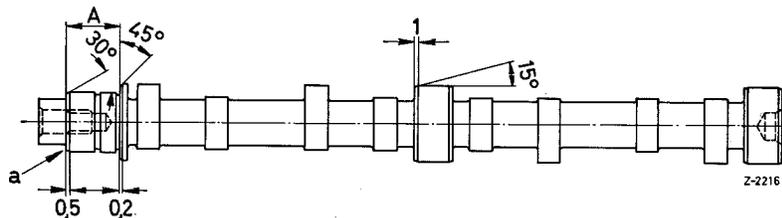

Figure 05-38/2
When re-grinding the 1st camshaft journal (1) the thrust surfaces (b) are generally only ground so much that a proper thrust surface is obtained (see Fig. 05-38/1).
When regrinding the 1st bearing pin, do not regrind more than 0.1 mm from the lateral butting surface of the collar "b" (see Figure 05-38/2). The same amount of stock removal on collar "b" must also be ground off from surface "a" so that the measure 34.000 to 34.039 is adhered to. Otherwise the axial clearance of the camshaft and consequently the chain misalignment is too large. The lateral out-of-true on the surface "a" must not exceed 0.01 mm. After grinding of the camshaft